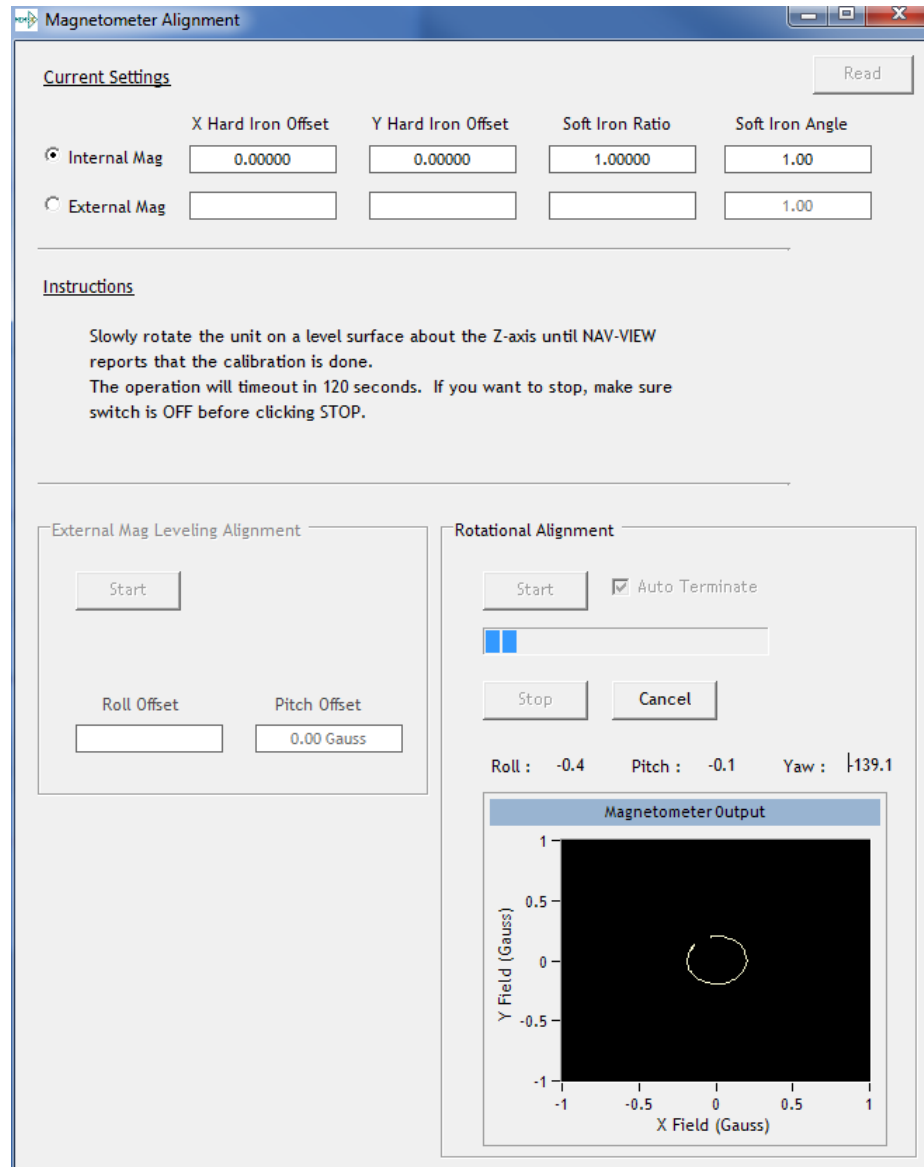

Figure 27 Mag Alignment
3. Select the “Start” button to begin the “MagAlign” Procedure and follow the instructions at the bottom of the screen as shown in Figure 27 below.